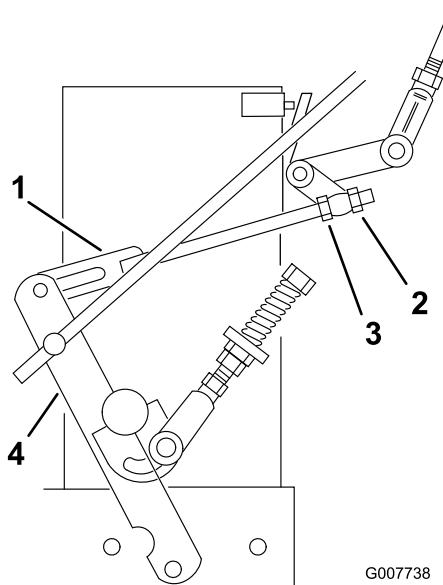

Figure 36
8. Loosen the front adjusting nut on left hydraulic control linkage as shown in Figure 36.
9. Turn the left rear adjusting nut counter-clockwise until wheel rotates forward (Figure 36).
10. Turn the rear adjusting nut clockwise 1/4 turn at a time. Then move the speed-control lever forward and back to the NEUTRAL position. Repeat this until left wheel stops rotating forward (Figure 36).